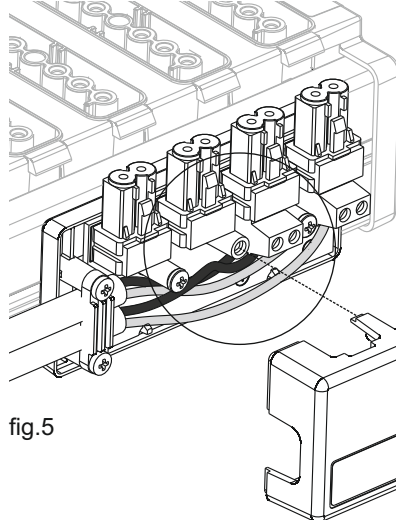

fig.5
- Attach the Auxiliary Adaptor Unit cover using the single cover screw C (fig.5).